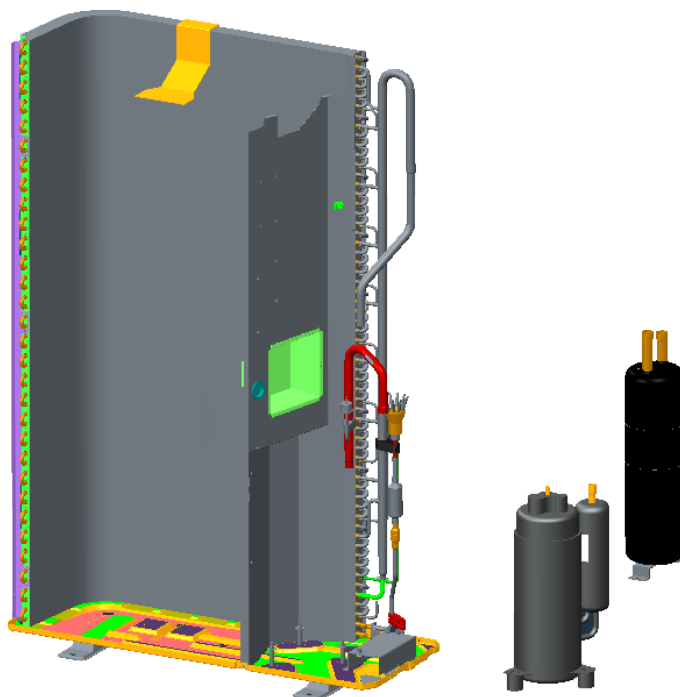

Fig.13
- Remove the connection wire of compressor.[See Fig.13]